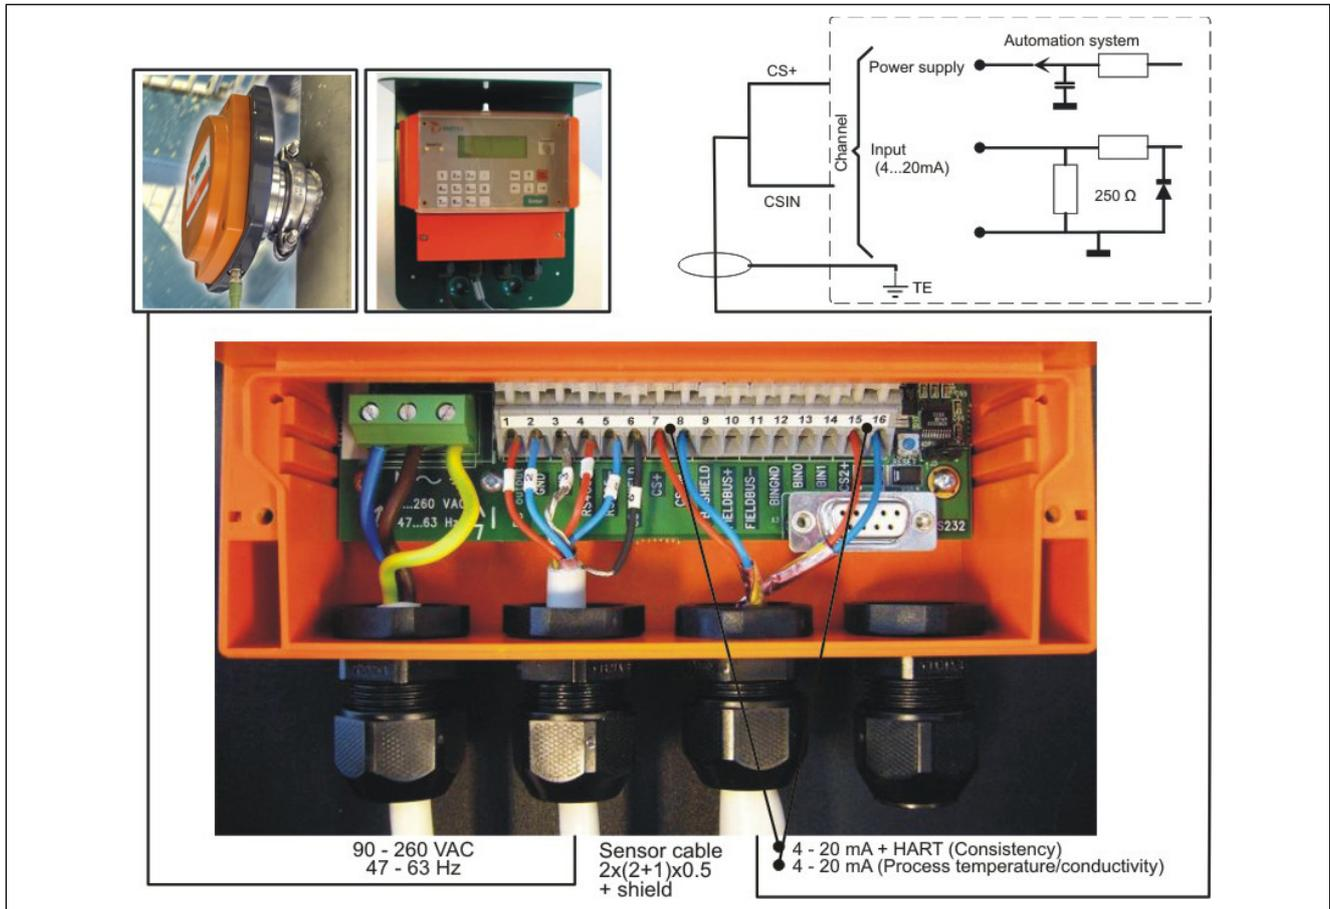

Fig. 15. Electrical connections to the TCU.
1. Insert the end of the sensor cable that has no connector into the TCU connector casing through the inlet and connect it as shown in Figure 15. The protective shields are connected as follows:
Insert the power supply cable 90-260 VAC into the TCU connector casing through the inlet on the left edge and connect it to the terminal block as shown in Figure 15.
Insert the current signal cable into the TCU connector casing through the inlet and connect to the terminal block as shown in Figure 15: